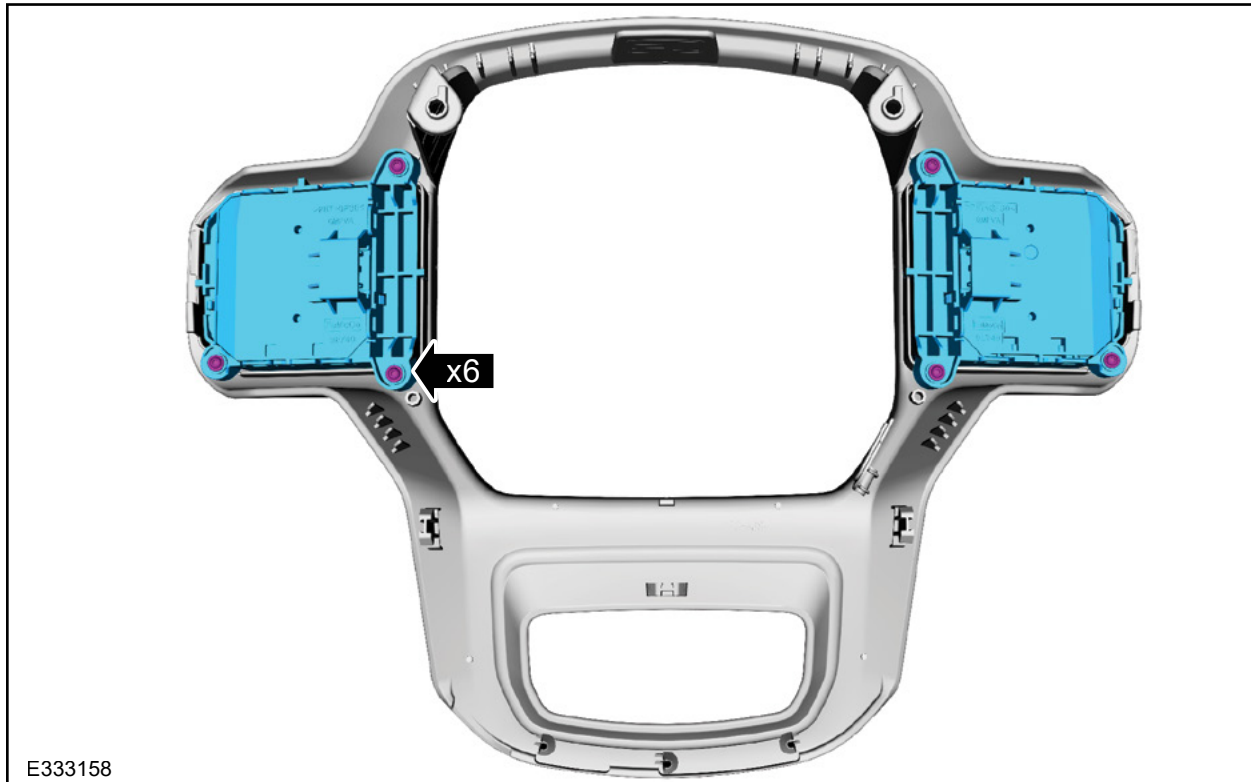

FIGURE 22
4. Remove the retainers and the steering wheel multifunction switches. See Figure 22.